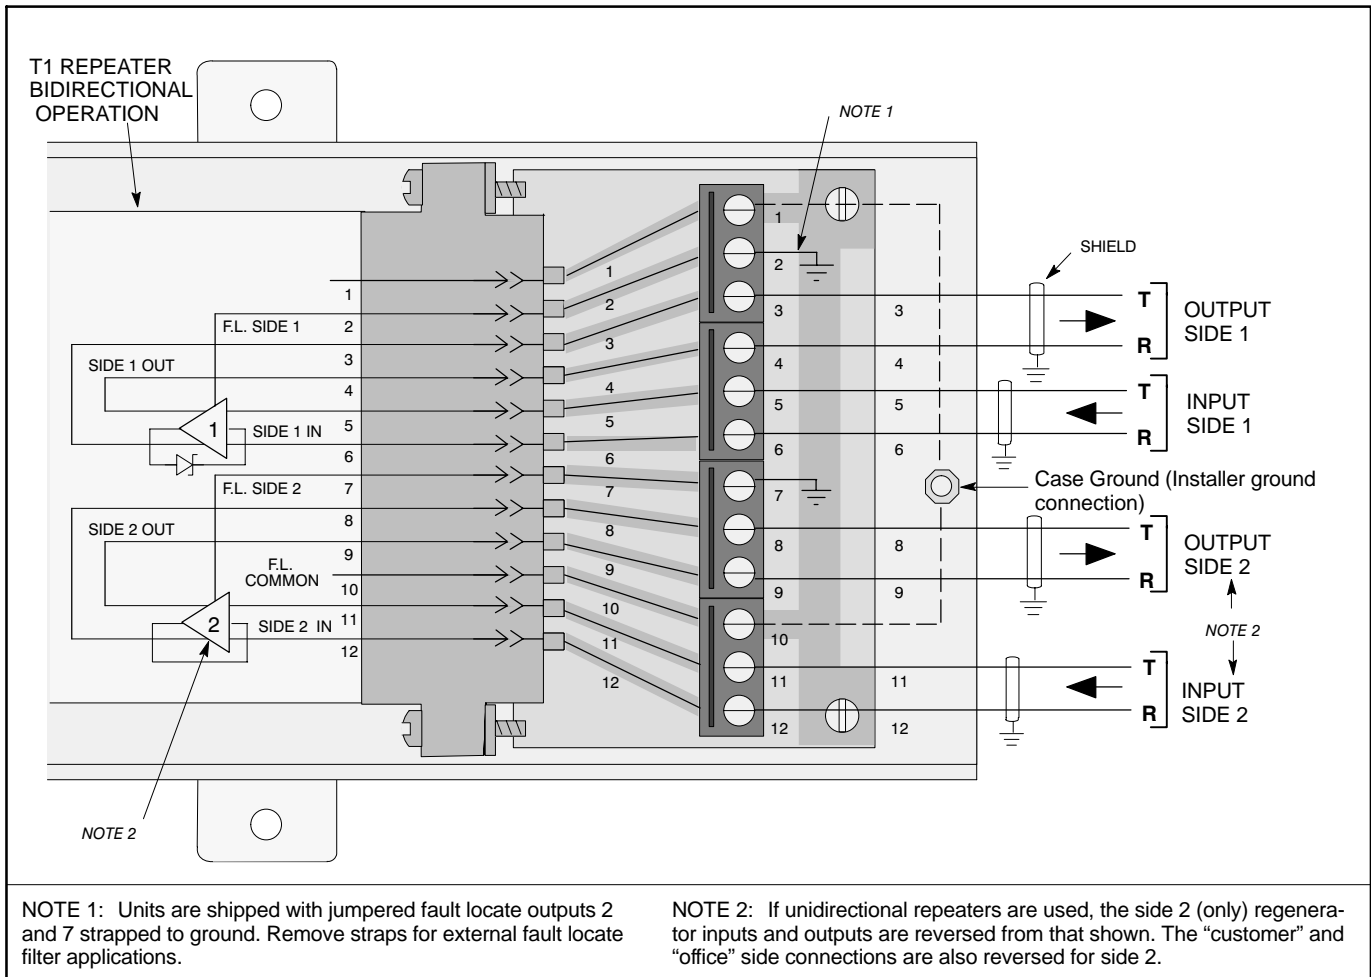

Figure 5. Wiring Diagram of AC 1000 Equipped with Bi-directional (two-way) Repeaters
4.	<p>Connect Wires to Terminal Strip Make the appropriate connections per the wiring diagram shown in Figure 5. A quick-reference wiring diagram label is provided on the inside of the case cover. Note that the jumpered fault locate outputs at terminals 2 and 7 should always be strapped to ground, as shown in Figure 5, unless an external fault locate filter is specified.</p>